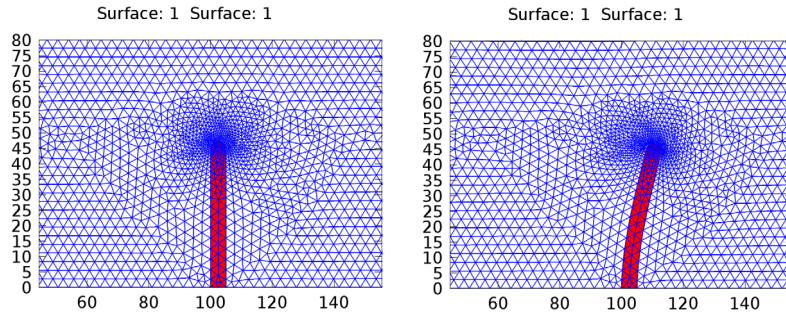

Figure 5: Geometry and mesh near the top of the structure at  $t = 0$  s and 2 s.
**Figure 5** compares the meshes at different times. The first image shows the initial mesh, which you generate prior to solving the model. This mesh is equally distributed around the top of the structure. The second image shows the mesh in its deformed form. Because the structure deforms more in the horizontal direction, the mesh also